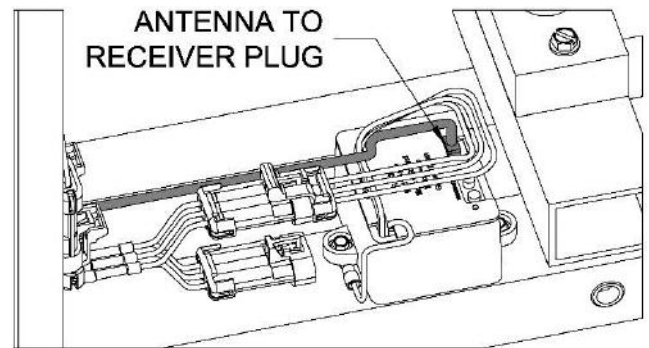

FIG. 8.7
- 8.3.8. Plug the antenna into the receiver (FIG. 8.7).